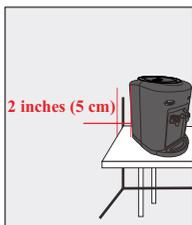

Figure 1
1. Place the water cooler on a flat level surface in a cool shaded location near a grounded wall outlet. Position water dispenser so that the back of the unit is a minimum of 2 inches / 5 cm away from the wall to ensure proper ventilation (Figure 1).